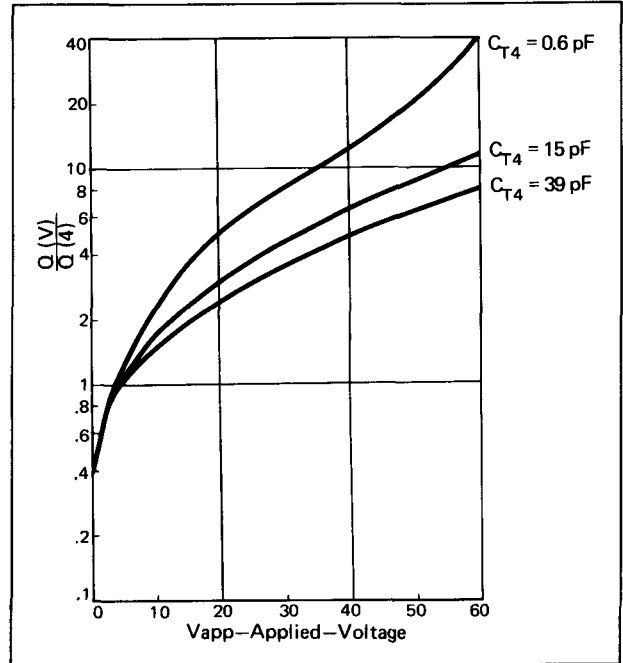
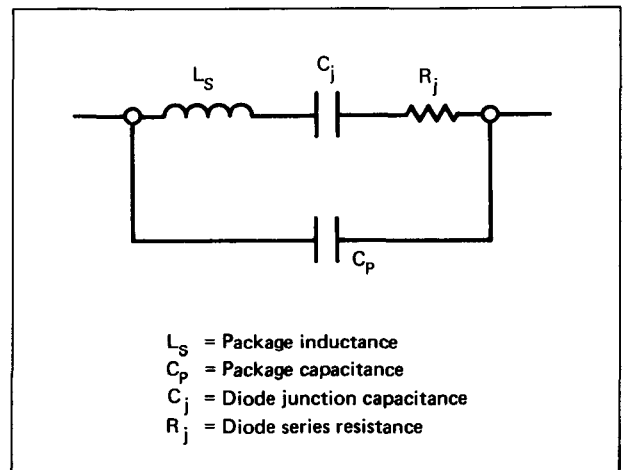

Figure 3. Typical Q vs. Applied Voltage Abrupt Junction Tuning Diode Q Normalized to Q at V = 4 Vdc
Figure 4. Typical Schematic Representation of a Packaged Tuning Varactor
- Chip loss can be represented as a resistance in shunt with the junction capacitance. Data shown are for 10 GHz for 0.15 and 0.30 pf chips, 5 GHz for 0.50 pf chips. Reflective loss is shown in Figure 3, and is included. Loss is measured at - 10 dBm input.
Diode Q is dependent on several factors. Highest Q is obtained from low breakdown voltage and low capacitance diodes; Q decreases as either breakdown voltage or capacitance is increased. In addition, Q, being an inverse function of capacitance and series resistance, increases with reverse bias. Typical Q vs. reverse bias curves for several diodes of different C_{T4} values are shown in Figure 3. A typical schematic representation of a packaged High Q tuning varactor is shown in Figure 4. Usually the L_s (package series inductance) and C_p (package parallel capacitance) can be designed into most circuits. The junction capacitance of abrupt junction diodes is given by the following equation.